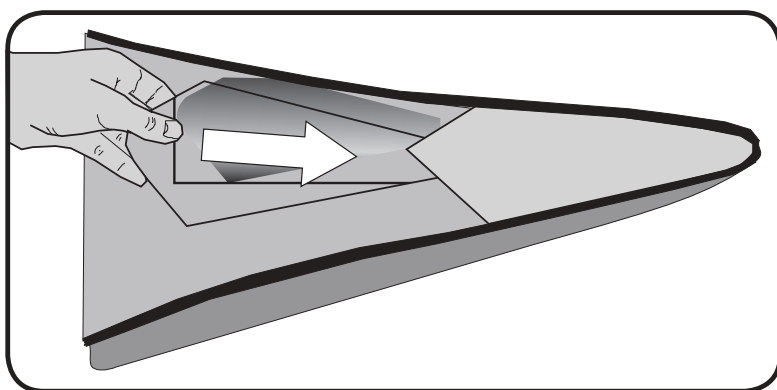

Figure 3: Plastic Bow and Stern Insert
5. Finally, insert plastic Bow and Stern Forms into the grey pockets on the bow and stern of the kayak. (See Figure 3).